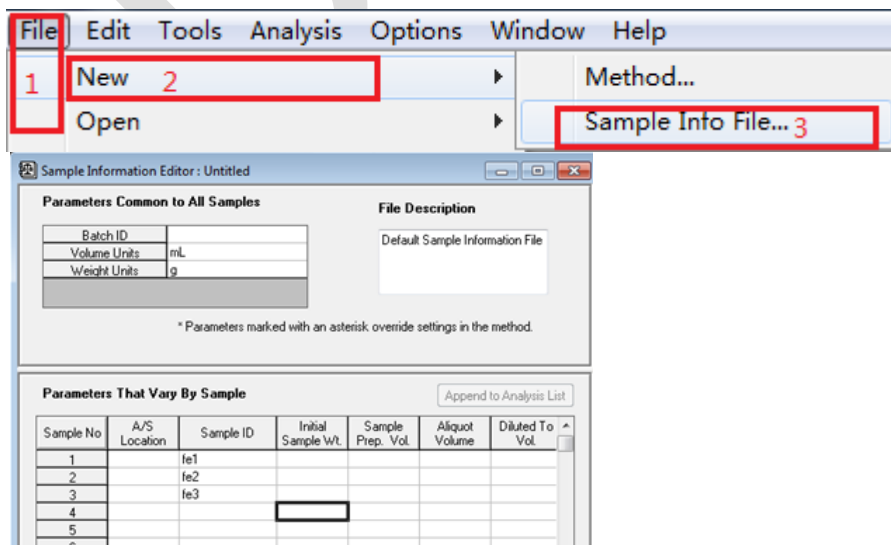

Fig. 21
3.3.1 Create a sample information file if you intend to use one. Set sample information (fig.21) and then save (**file > save as > sample info file**).